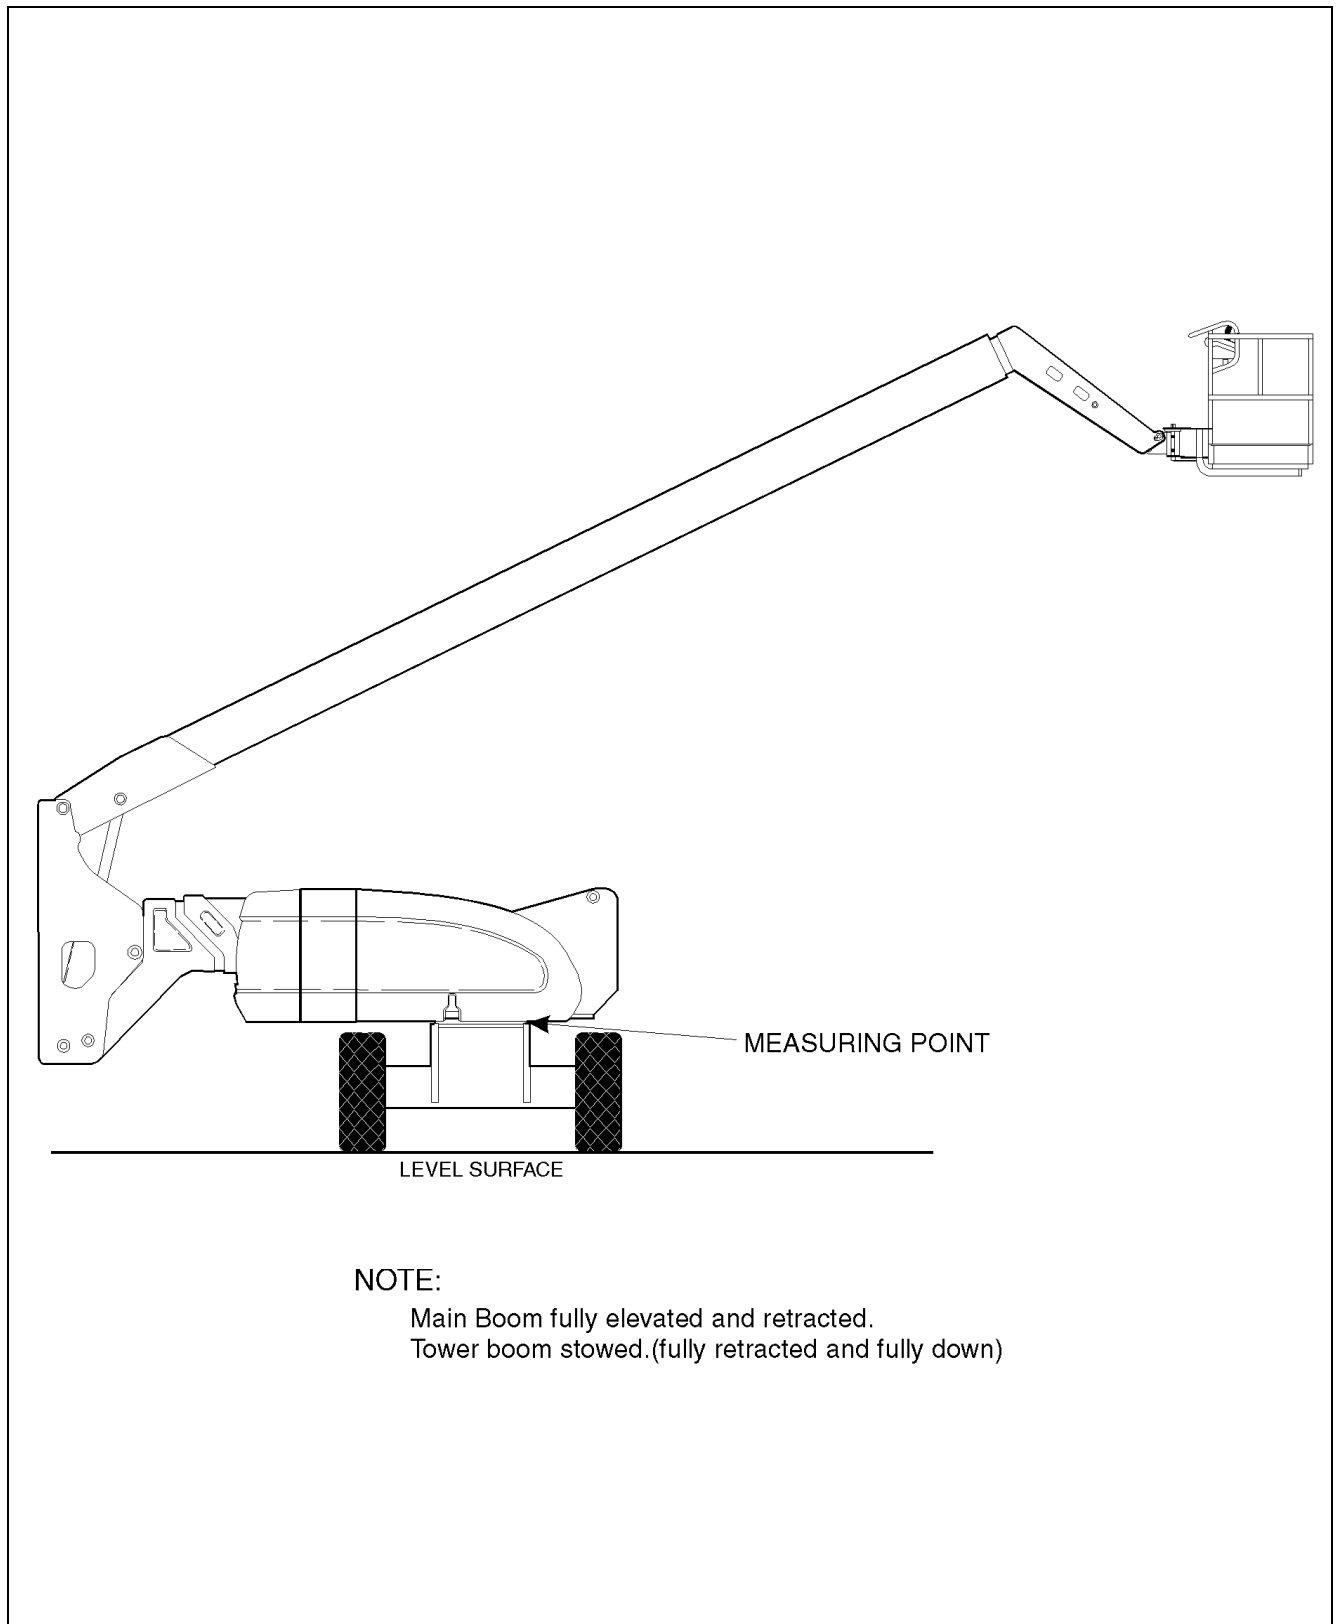
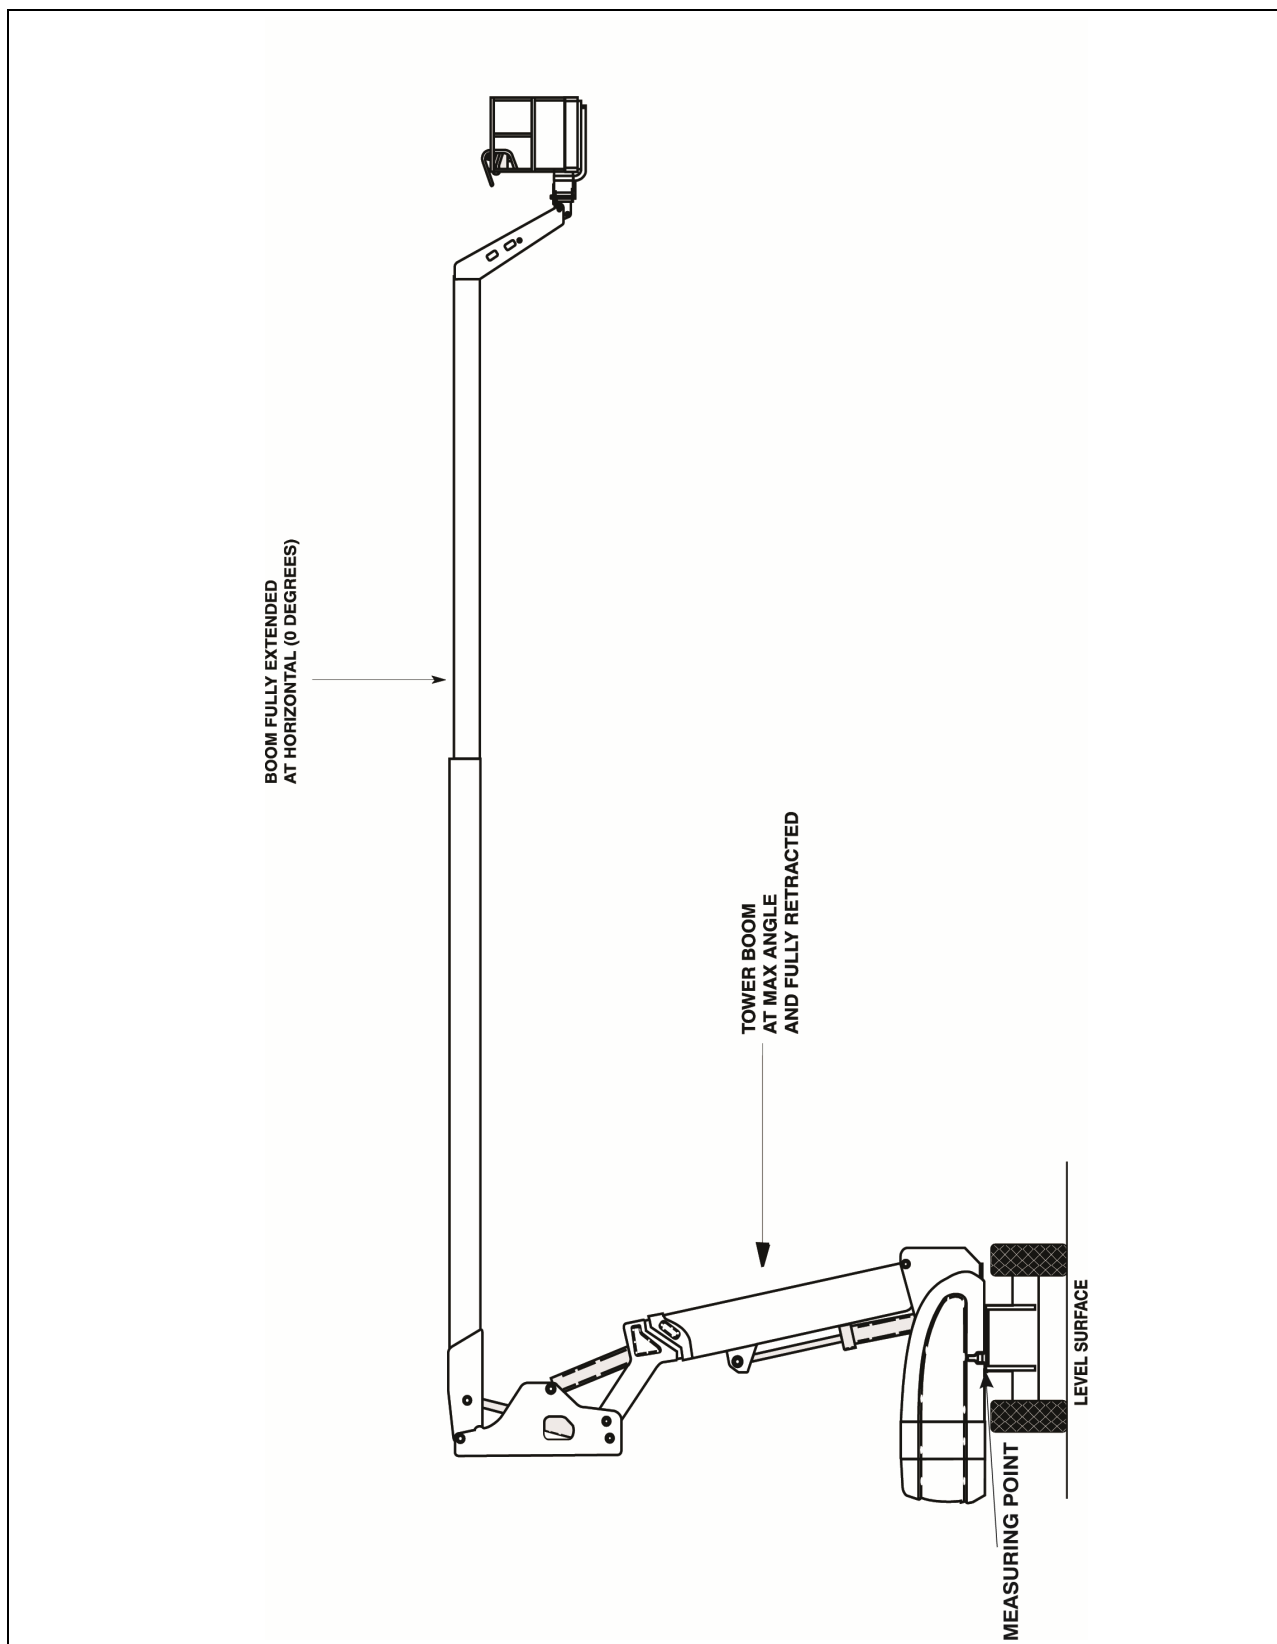
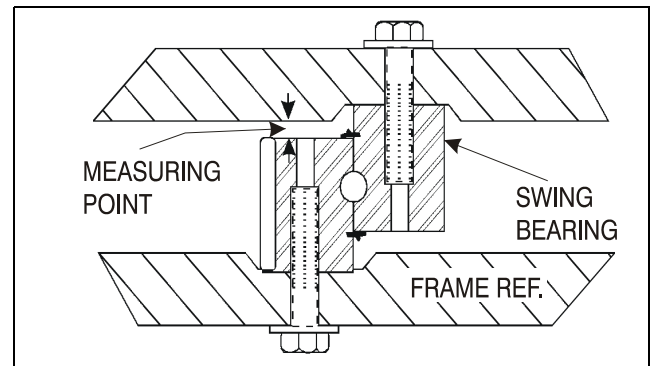

Figure 3-33. Swing Bearing Tolerance Boom Placement (Sheet 1 of 2)
Figure 3-34. Swing Bearing Tolerance Boom Placement (Sheet 2 of 2)
Figure 3-36. Swing Bearing Tolerance Measuring Point
- a. Elevate the fully extended upper boom to horizontal. (See Figure 3-34.)
- b. At the position indicated on Figure 3-33, try to insert the 0.0015" feeler gauge between the bolt head and hardened washer at the arrow indicated position.
1. From the underside of the machine, at rear center, with the upper boom fully elevated and fully retracted, and tower boom stowed, as shown in Figure 3-33., Swing Bearing Tolerance Boom Placement (Sheet 1 of 2), using a magnetic base dial indicator, measure and record the distance between the swing bearing and turntable. See Figure 3-36., Swing Bearing Tolerance Measuring Point
2. At the same point, with the upper boom at horizontal and fully extended, and the tower boom fully elevated and fully retracted as shown in Figure 3-34., Swing Bearing Tolerance Boom Placement (Sheet 2 of 2). Using a magnetic base dial indicator, measure and record the distance between the swing bearing and turntable. See Figure 3-36., Swing Bearing Tolerance Measuring Point